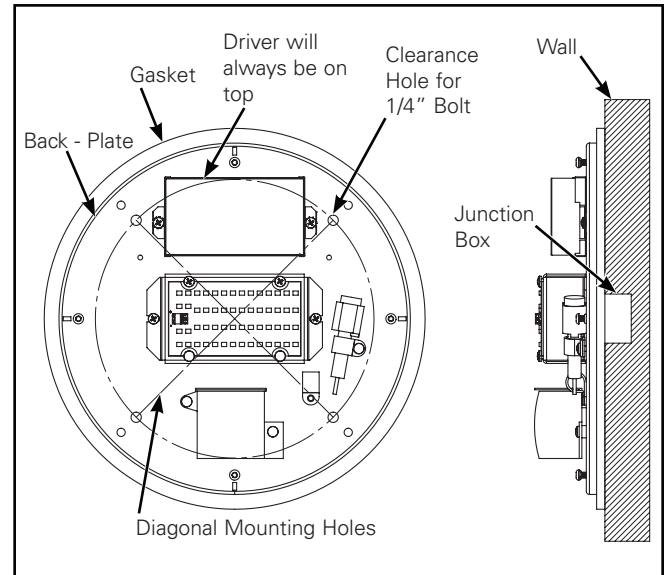

Figure 4. Flat Unit Installation
3. Center mounting plate on flat smooth ceiling or wall over junction box. Use mounting plate as a template to layout fastener locations. (Figure 4.)
- Align fixture without lens to four mount holes. For wall mounted, note that the driver will be oriented at the top as shown in (Figure 4). Tighten all four mounting fasteners sufficiently to compress housing into gasket.